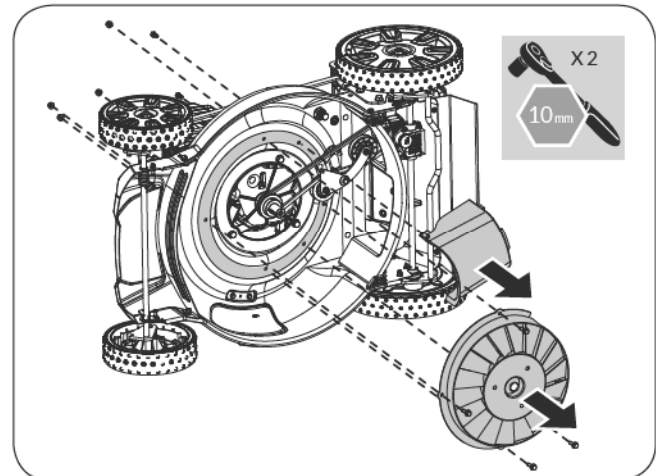

Figure 24
2. Remove the engine pulley cover and belt cover. (See **Figure 24**)